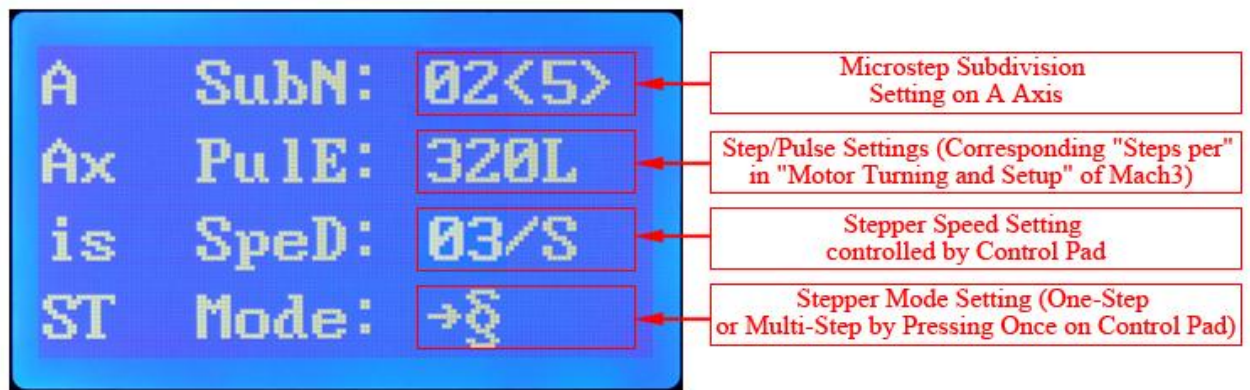

Figure 16: A Axis Running Parameters Setting
- After finishing “Z Axis Running Parameters Setting”, please press the “ST” key on control pad again to skip to the “A Axis Running Parameters Setting” in “Figure 16”.